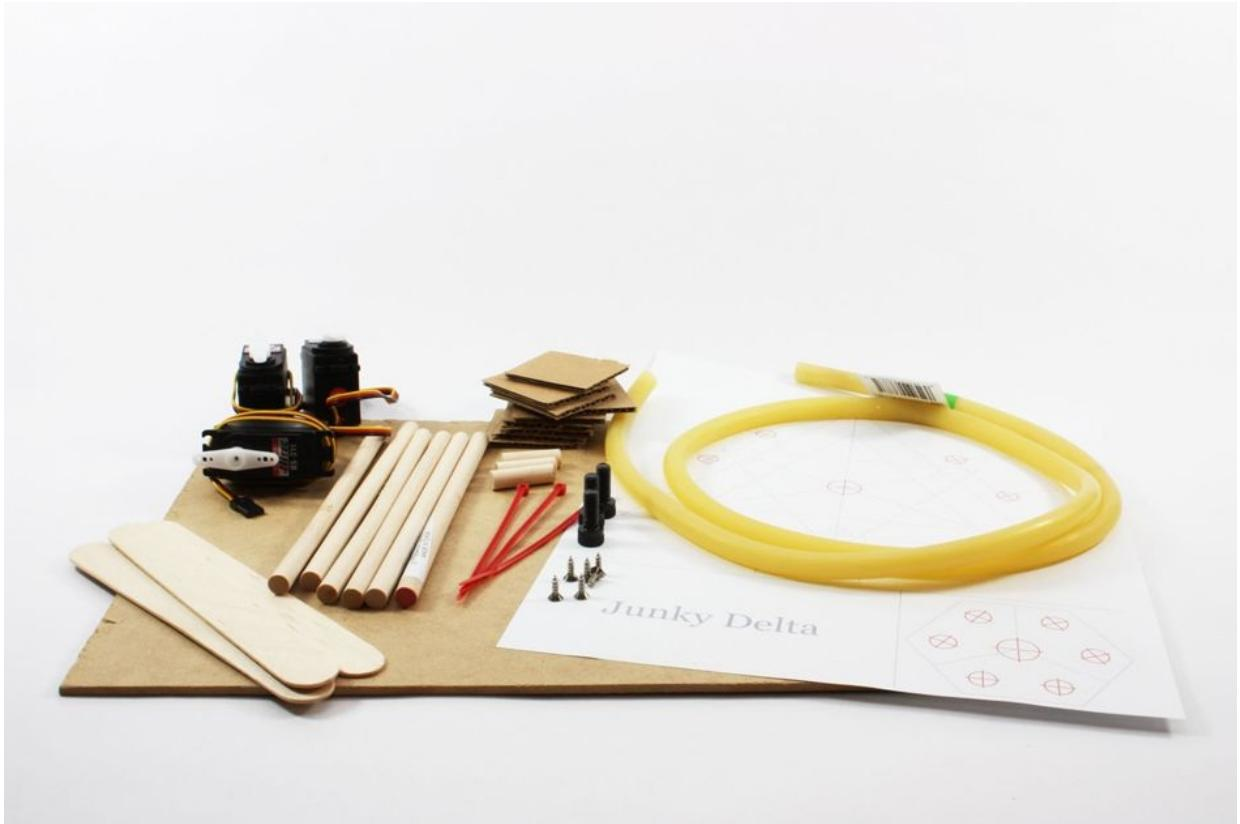

Figure 13-4. Parts for Junky Delta with dowels pre-cut
1. First, cut the dowel into six 6" long pieces and three 1" long pieces using your saw or a pipe cutter, as shown in Figure 13-4.